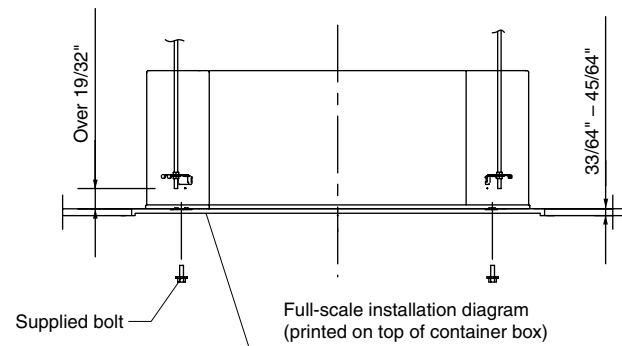

Fig. 3-31
- (1) When placing the unit inside the ceiling, determine the pitch of the suspension bolts using the supplied full-scale installation diagram. (Fig. 3-31)
- (2) The length of suspension bolts must be appropriate for a distance between the bottom of the bolt and the bottom of the unit of more than $19/32$ " as shown in the diagram. (Fig. 3-31)